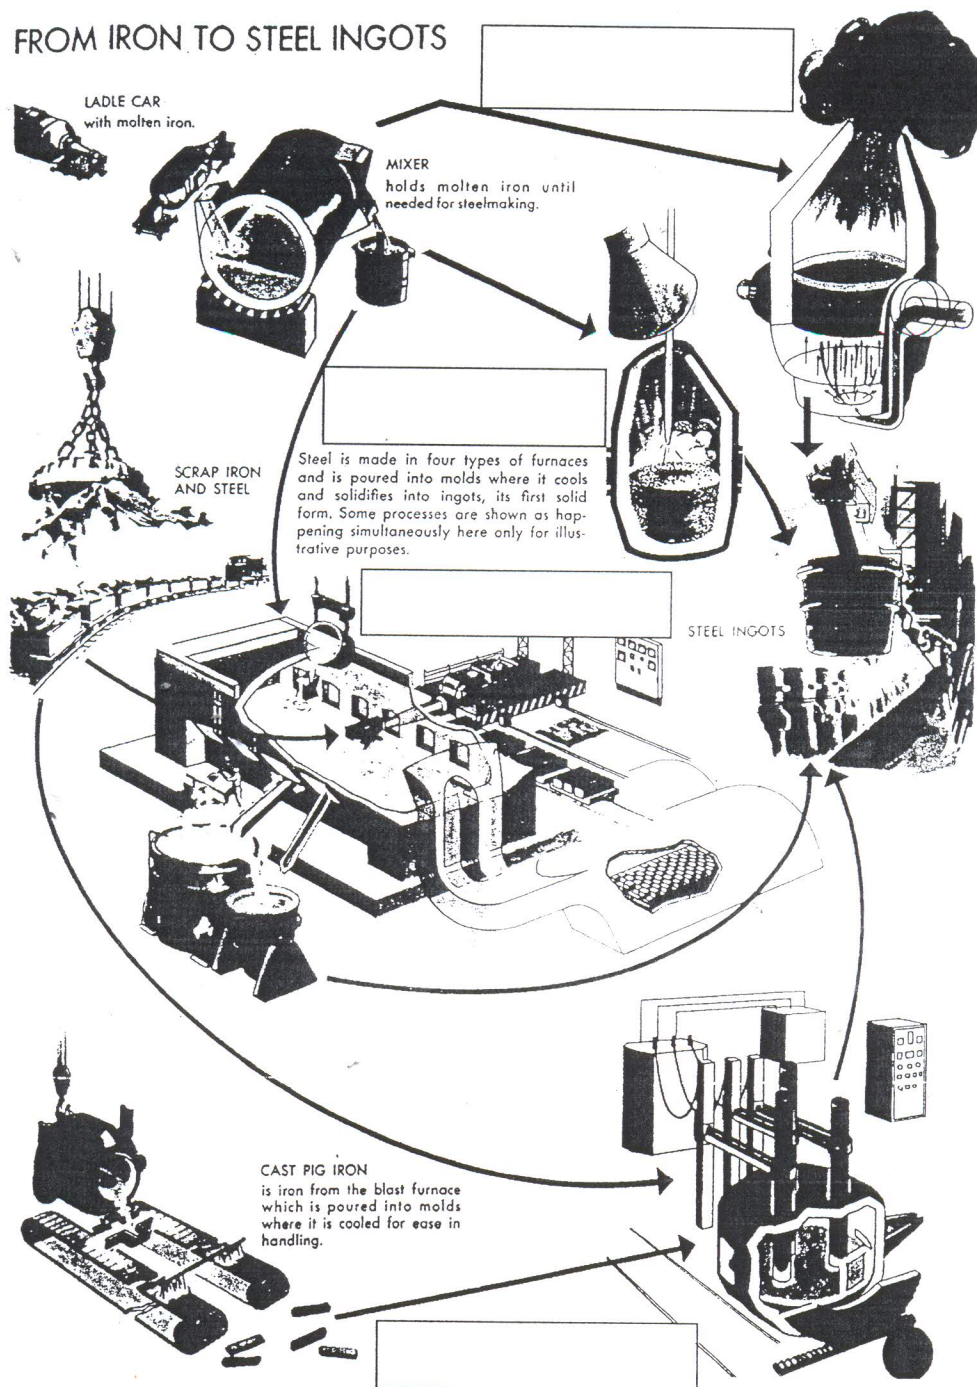

Figure 1: Production of Steel
Steel production methods in Figure 1, influence the properties of the steel produced. The three common methods of steel production are the open-heart process, the electric-furnace process, and the Bessemer-converter process. Most steel used in stamping operations comes from open-heart furnace.
- (a) i. There are several types of properties of the metals. State five (5) properties of metals and explain their definitions briefly. (10 marks)
- iii. The Figure 1 is the second stage of making iron to steel ingots. Iron will be melted by the furnaces before it becomes steel ingots. Fill in the blanks of Figure 1(Production of steel) the types of furnaces on page 2.